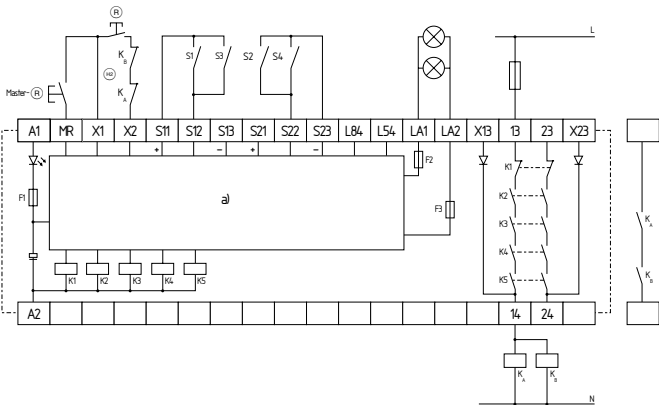

Fig. 4:
Dual-channel control, shown for 2 muting sensors and an external master reset button (R) (Fig. 4)
- (R) = Feedback circuit